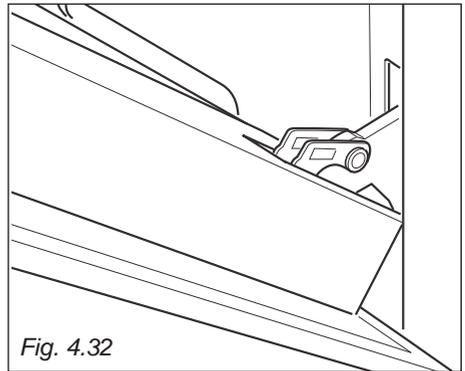

Fig. 4.32
1. Make sure the door is locked open (see fig. 4.32).